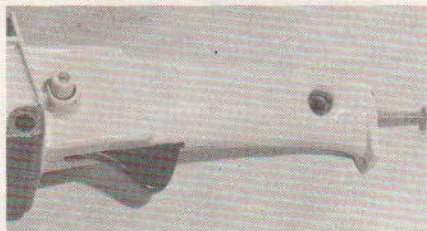

Fig. PR6-12-The nut (N-Fig. PR6-11) can be held in position with a screw while assembling.
The throttle trigger (3-Fig. PR6-11), throttle link (4), fuel pick-up hose, the handle brace nut (N), crankshaft assembly (8) and gasket (G) should all be located correctly between the crankcase halves before attaching the halves together. The handle brace nut can be held in place with the screw as shown in Fig. PR6-12 until the crankcase halves are together. The nut is captive between the halves after they are together.